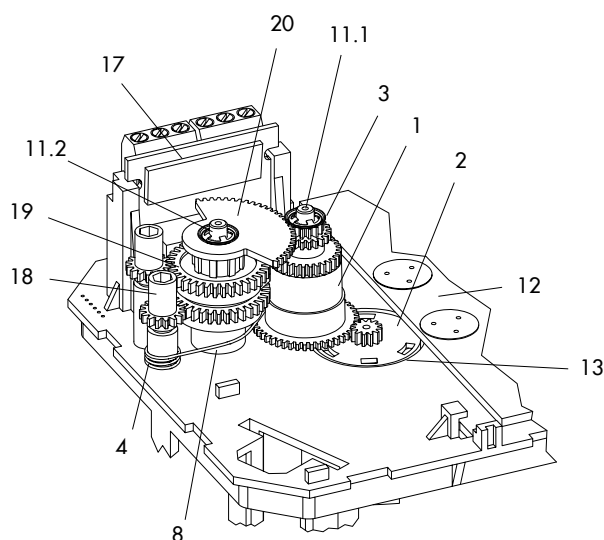

Fig. 20: Inside view of Type 3374 Actuator
⇒ See Fig. 20.
11. Slide the cam holder (20) with both contact cams (19) onto the spindle 2 (11.2) corresponding with the position of the actuator stem as illustrated in Fig. 20. Make sure that the outermost cog of the cam support (20) engages in the gearwheel of the intermediate gear (1). In addition, the adjustment gears (18) must engage properly in the corresponding gears of the contact cams (19).
12. Secure the cam holder (20) and intermediate gear (1) with the serrated ring (3); push down the serrated ring as far as it will go.
13. Position the terminal board (17) at the base of the support at a 45° angle (approx.) with the switches pointing towards the gears. Swivel the upper end of the terminal board towards the